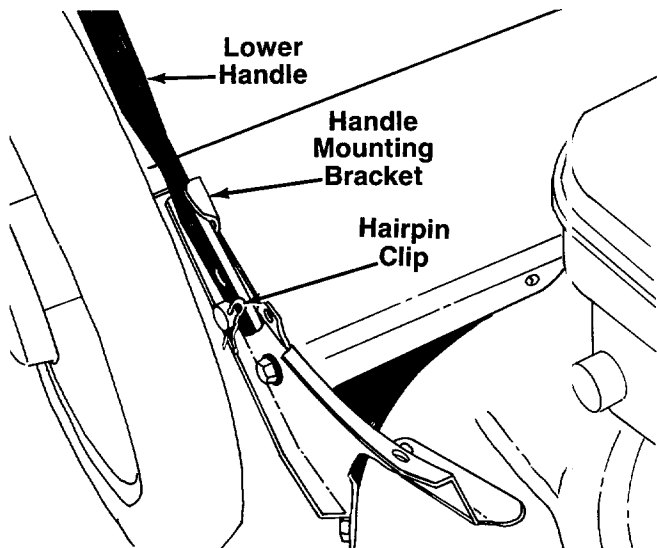

FIGURE 1.
2. Using a pair of pliers, squeeze one leg of the lower handle against the handle mounting bracket. Insert the hairpin clip into the hole on the weld pin. See figure 1. Repeat on other side.